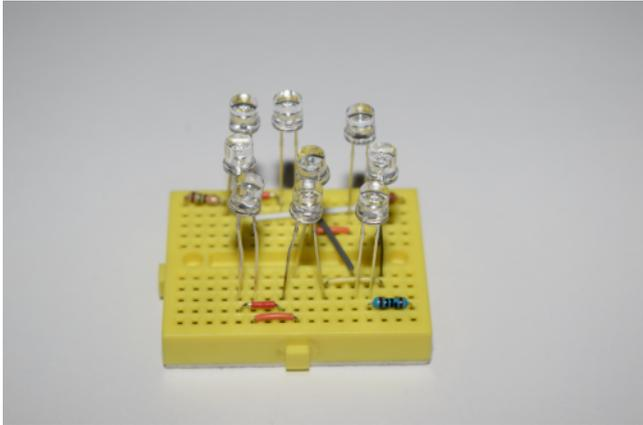

Figure 5-19. *Finished breadboard with LEDs*
3. Next, remove 5mm off of the ends of the cable. Then, tin both ends. Solder the white cable to the + pad, and then solder the three colors to their pad. (See Figure 5-19.)